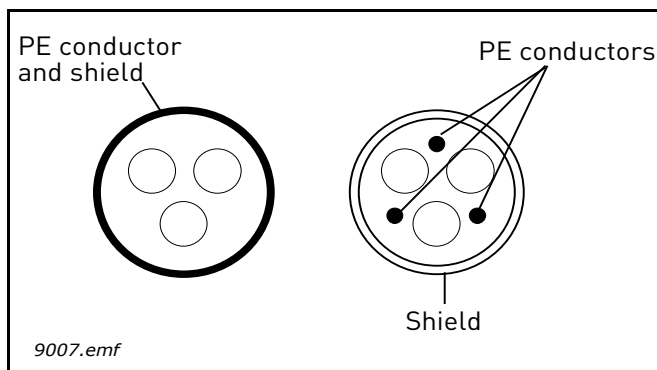

Figure 24.
- 2 = Symmetrical power cable equipped with concentric protection wire and intended for the specific mains voltage. (MCMK or similar recommended). See Figure 24.
- 3 = Symmetrical power cable equipped with compact low-impedance shield and intended for the specific mains voltage. [MCCMK, EMCCK or similar recommended; Recommended cable transfer impedance (1...30MHz) max. 100mohm/m]. See Figure 24.